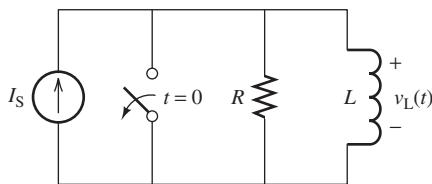

FIGURE P5.18 Circuit for Problem 5.18.
- 5.18** (A) Find the expression for $v_L(t)$ in Figure P5.18. (The switch is opened at $t = 0$.) $i_L(0) = 0$.